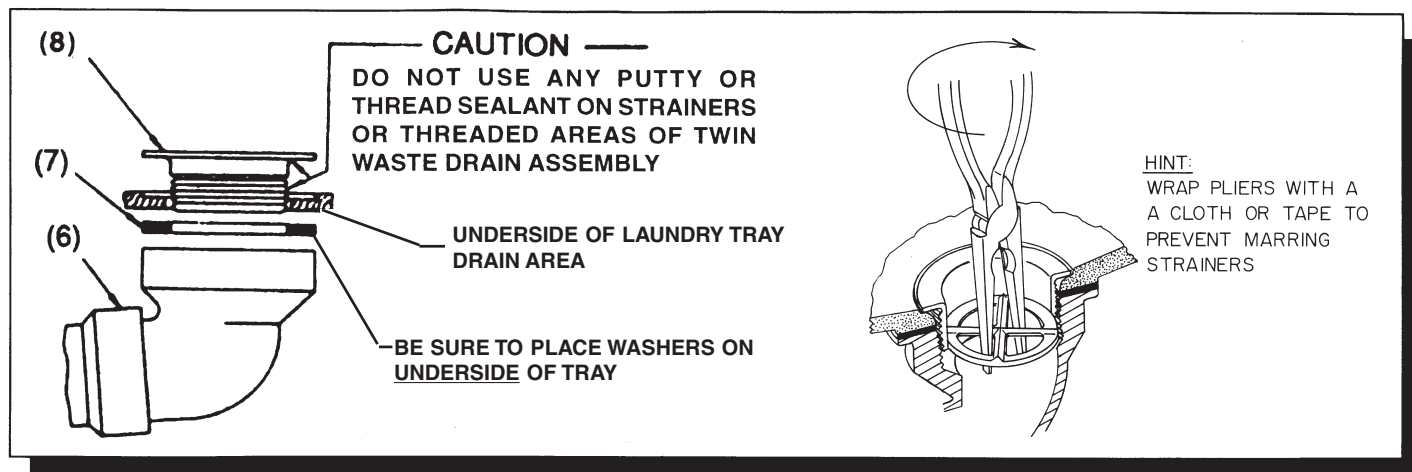

FIGURE 4.
- Insert Strainers (8) into drain holes of **Laundry Tray**, install Sealing Washers on underside of tray (7) and screw strainers into Twin Waste Drain Assembly (6), tighten in place. See Figure 4. **DO NOT** use any putty or thread sealant on strainers or threaded areas of drain fitting. Teflon sealing tape (not furnished) is acceptable.